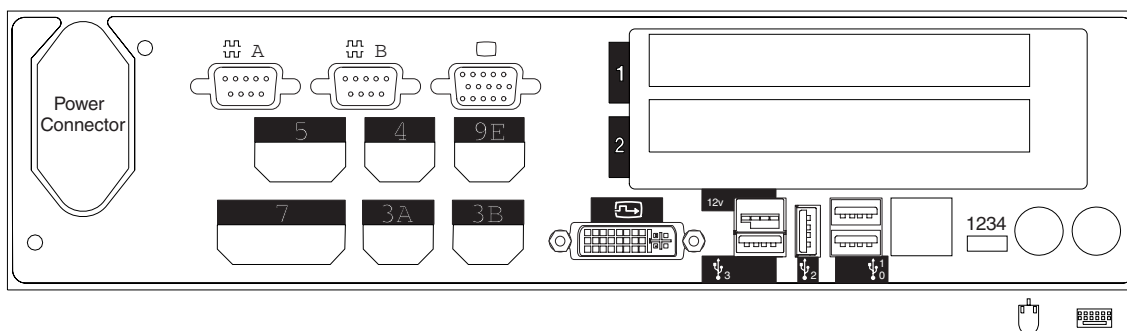
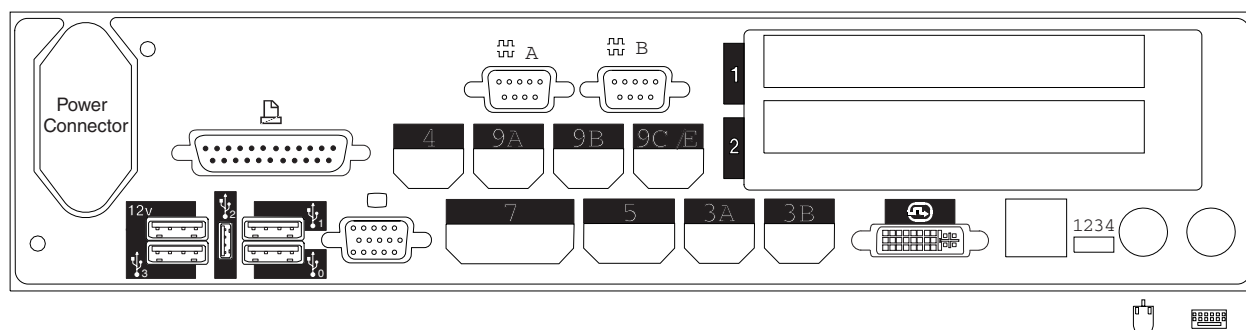

Figure 130. Rear of 4694-307 Point-of-Sale Terminal
Figure 131. Rear of 4694-347 Point-of-Sale Terminal
10. Mark an X on Figure 130 and Figure 131 on page 301 to indicate the sockets in which POS devices are connected.